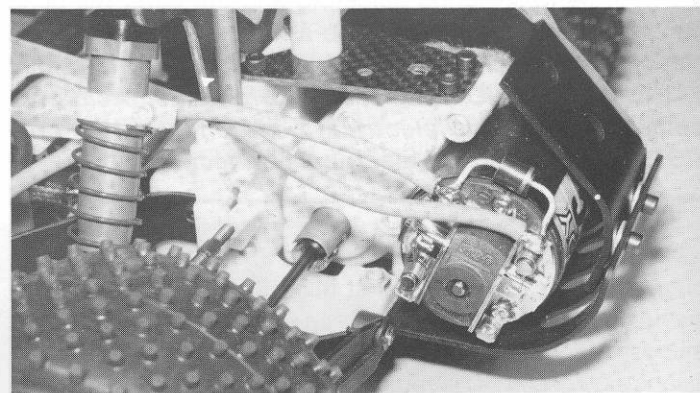

Fig. 185
□ **Fig. 185** Now measure the motor lead wires to cut them to the right length (make sure you leave some slack in the wires), then solder them onto the motor.